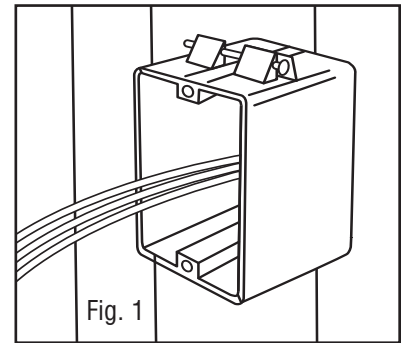

Fig. 1
1. Make sure to use properly rated, polarity identified speaker wire from the receivers/amplifiers to the junction box where you want the NX-AB2, then run wire from the junction box to the speaker locations. Be sure to leave enough extra wire to make connections outside the junction box and speaker cutouts. (See Fig. 1)